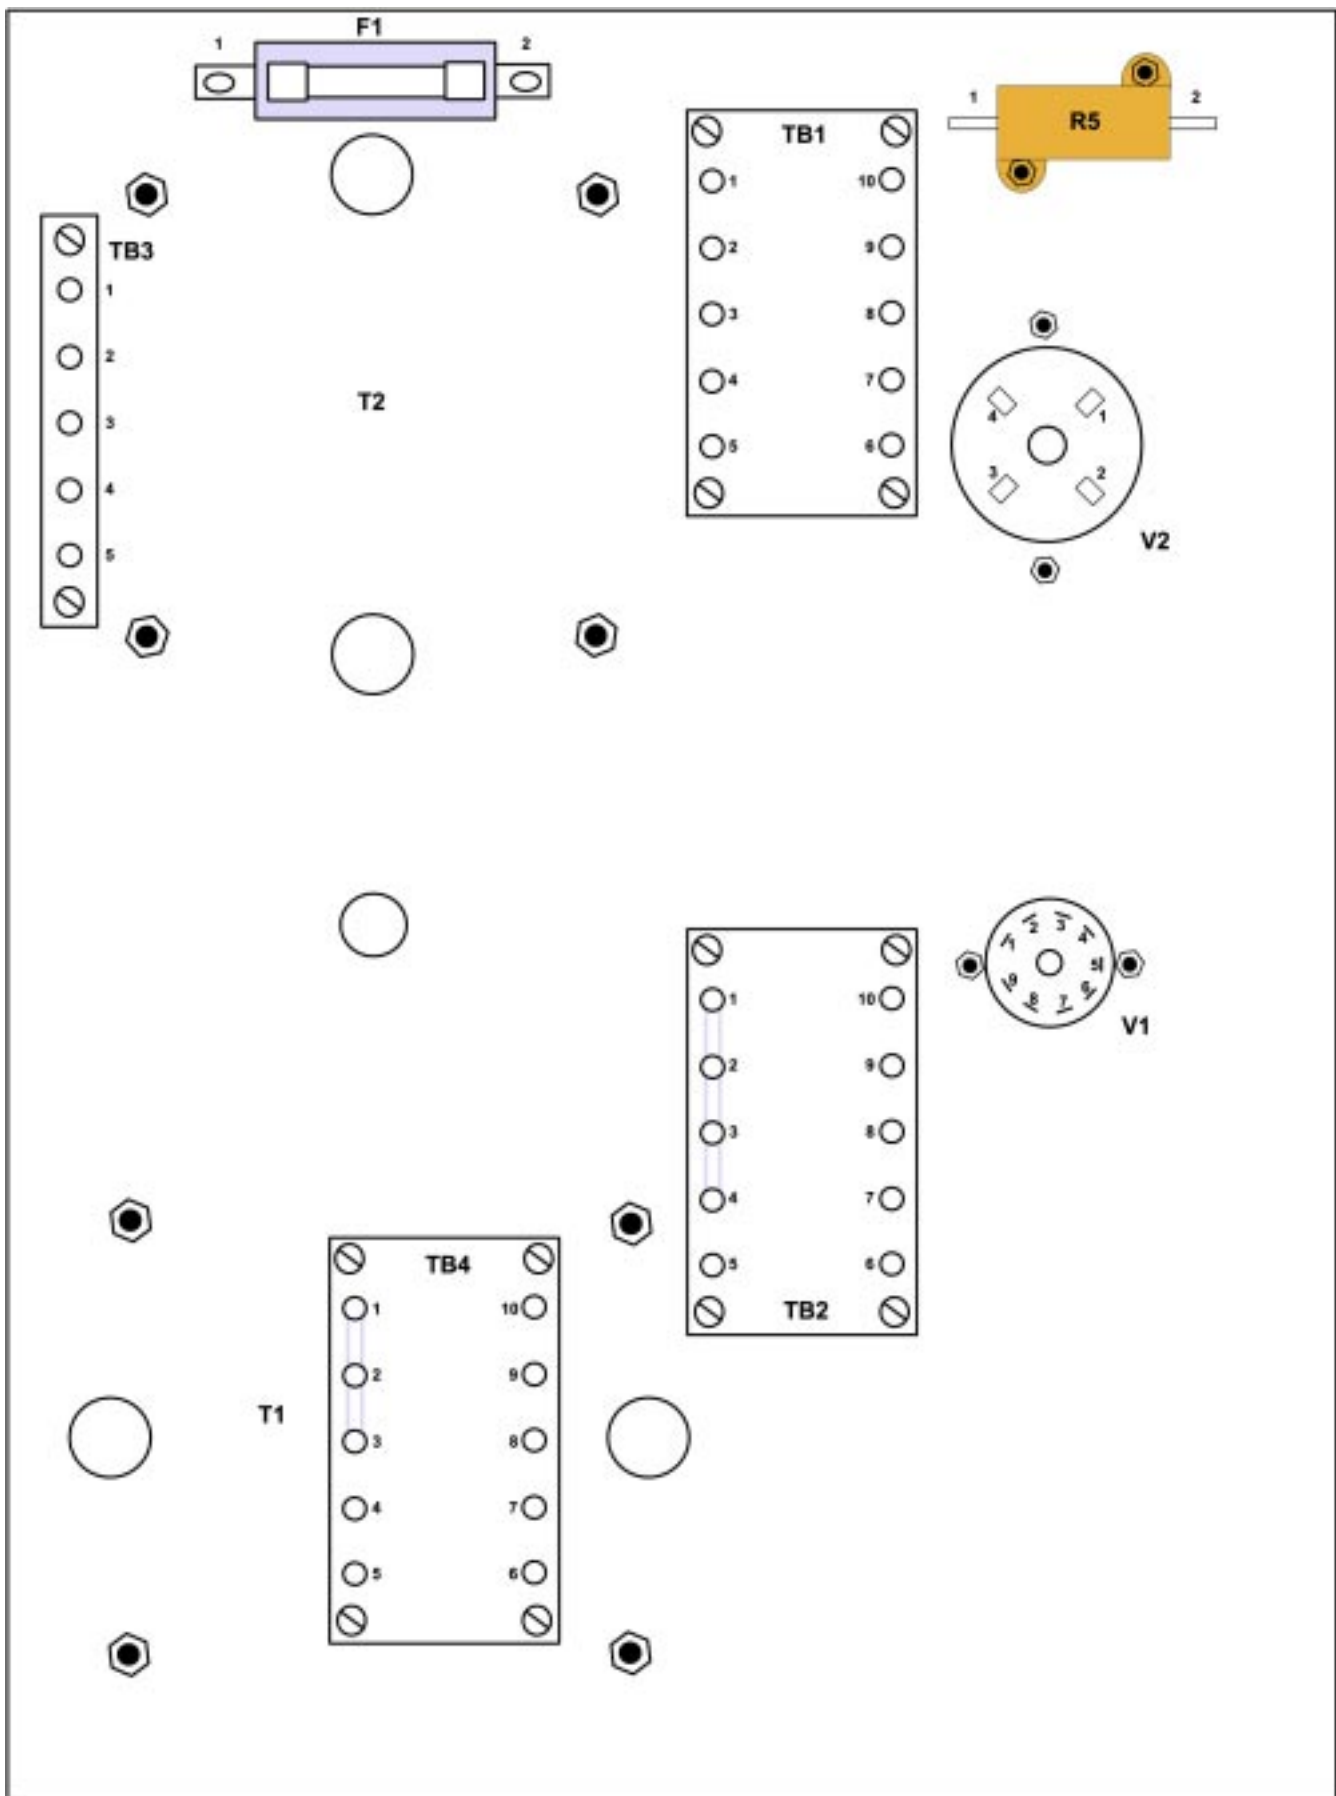

Figure 1
Take a few minutes to familiarize yourself with the layouts of the chassis plates in figures 1 and 2. The two monoblocks are mirror images of each other. Please note that while terminal board “numbers” of TB1 and TB2 are “mirrored” the tube socket pins are not. The wiring shown on the figures appears somewhat messy. This is intentional as we have spread the wires out to make them more visible for your assembly process. As you assemble the wires and connections be a little bit neater with their layout. Route them close to the aluminum chassis plate and underneath the terminal boards and components. Do not make big airborne loops out of the wires as they will act as antennas and pickup noise, radio stations, etc. And be very careful with that soldering iron and don't burn the insulation off of any adjacent components. **Please note: If you have purchased the silver hookup wire upgrade all we supply you are the colors red and white. Use the silver hookup wire in place of the red/black twisted pair input cable and use the silver wire whenever the manual calls out the 20ga solid core wire in yellow, black and white. Use whatever color you prefer.**
1) To begin, remove the bottom black panels. Mount the tube sockets using the supplied hardware and in the direction shown in figures 1 and 2. The chassis plates are mirror images of each other and therefore as you continue through the assembly steps note that some components will have to mount differently on the opposite plate. If you are installing the Ultimate Upgrade package note that the teflon tube socket pins are not marked with numbers. Orient and install sockets V1 and V2 according to the key in the center of the socket. Note that tube socket V2 is not “keyed” but has two small diameter pins and two large diameter pins. The small diameter pins are 2 and 3. The large pins are 1 and 4. Orient and mount the socket according to the drawing.
Install the terminal boards TB1, TB2 and TB3 to the bottom side of the chassis as shown in Figures 1 and 2 using the supplied hardware. The black button head screws are used on the outside of the chassis and the silver screws on the inside. The lugs of the terminal boards TB1, TB2 and TB3 have been numbered (refer to figures 1 and 2) to facilitate assembly. In subsequent steps a specific lug will be referenced by the terminal board number followed by the lug number. For example the instructions: “solder a black wire from TB2-1 to TB1-14”, refers to lug #1 of terminal board TB2 and lug #14 of terminal board TB1.